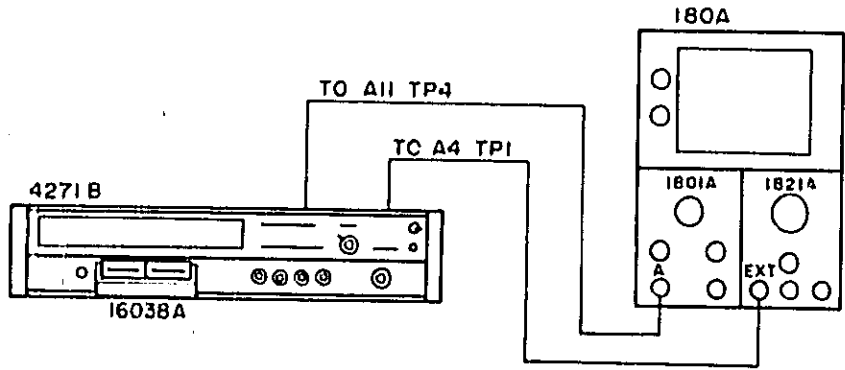

Figure 5-3. Null Detector Adjustment.
- b. Connect as shown in Figure 5-3.
- Connect as shown in Figure 5-3.